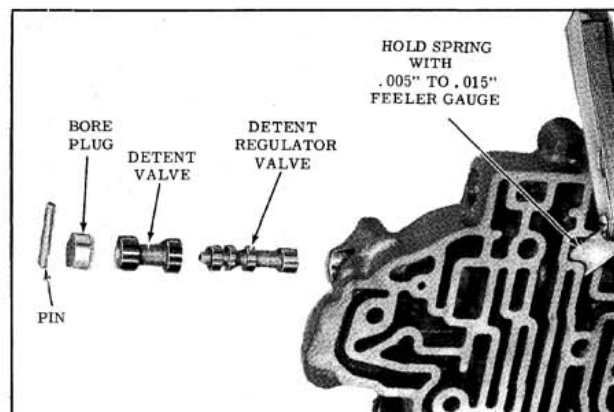

Fig. 6-100 Installing Detent Regulator and Valve
9. Install the detent regulator spring and spacer. (Fig. 6-100)
10. Install the detent regulator valve wide land first. (Fig. 6-100)